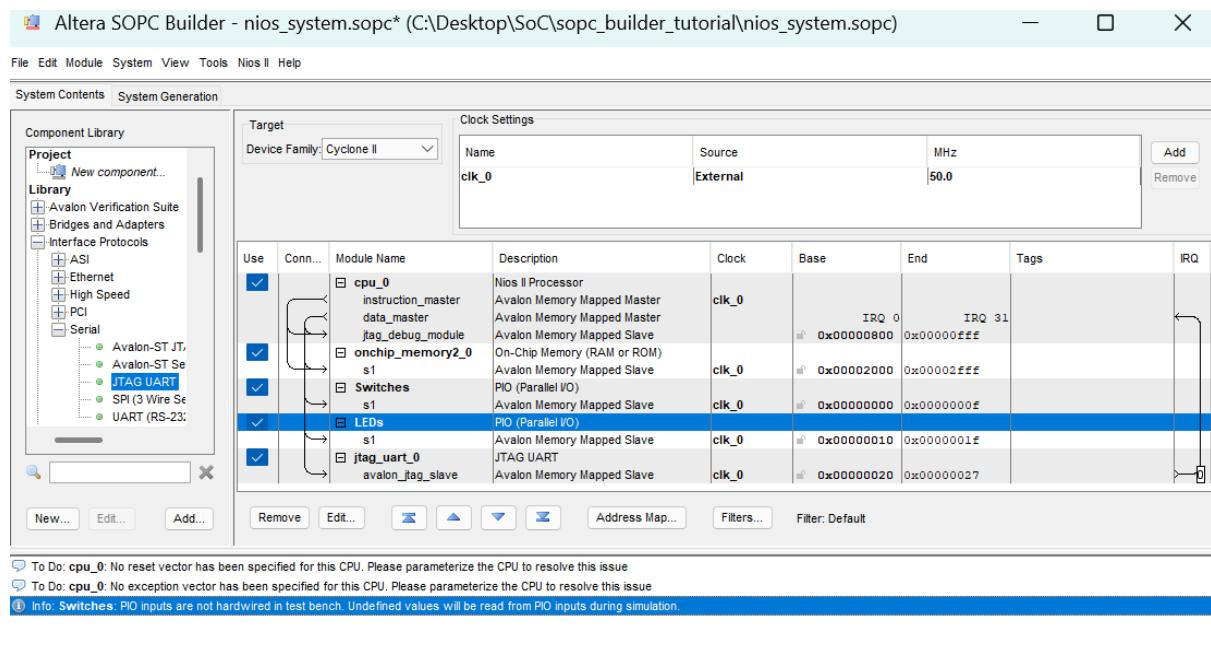

Figure 15. The final specification on a DE-series board.
The base and end addresses of system components can be set manually or automatically by SOPC Builder. Choose the automatic option by selecting System > Assign Base Addresses from the SOPC Builder menu, resulting in the assignment shown in Figure 15.
- Right-click on *cpu\_0* and select Edit to open the window in Figure 15.
- Choose *onchip\_memory2\_0* as the memory device for both the reset vector and exception vector, as shown in Figure 15.